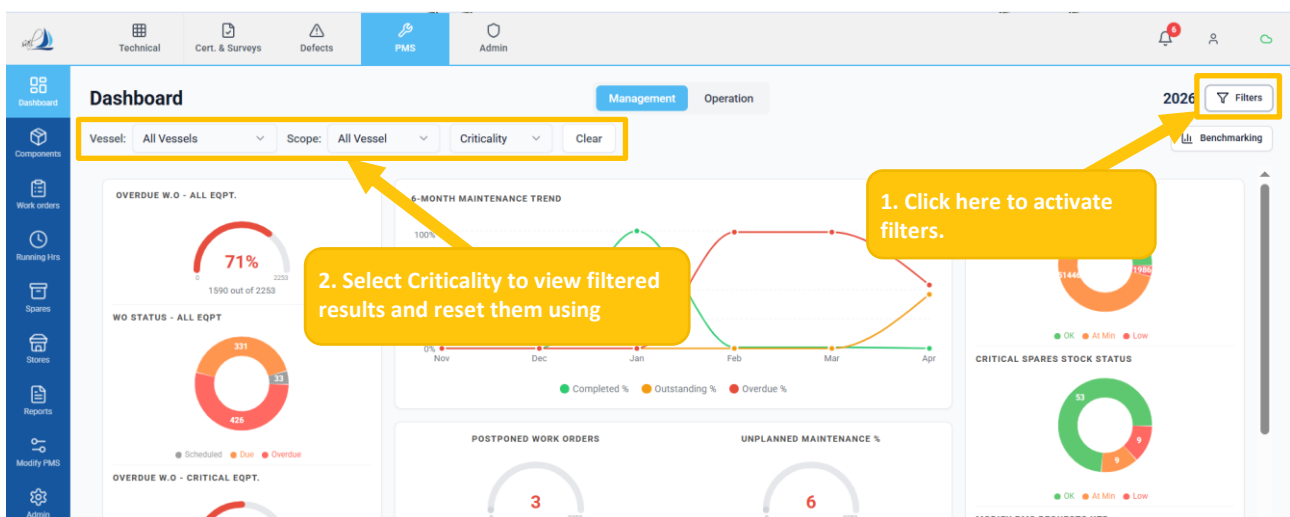

Figure 8
- Click on the 'Filter' button. (Ref Figure 8)
- Select the required criticality level to filter equipment or work orders. (Ref Figure 8)
- Click to reset all applied filters. (Ref Figure 8)